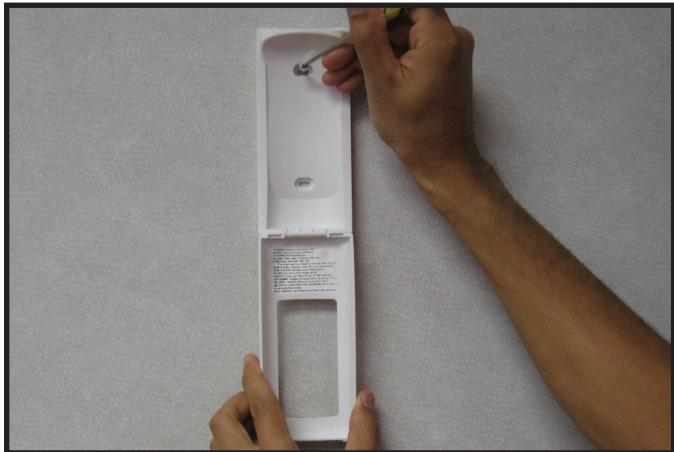

Figure 11.2. Mounting Remote Control Housing
- 3. Secure the remote control housing on a flat wall surface using the two screws and wall anchors provided. See Figure 11.2.